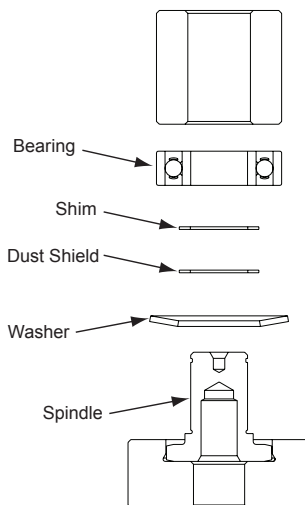

Figure 2
2. Place the Washer on the Spindle shaft with the curve of the Washer facing out so that the outside diameter of the Washer will contact the outer diameter of the Bearing (one seal). Place the Dust Shield onto the Spindle shaft. Lay the Shim on the shoulder of the Spindle. Note: Be sure that the Dust Shield is past the shoulder where Shim rests. Place the Bearing (one seal) on the Spindle with the seal side toward the Washer. NOTE: Make sure that both the inner and outer races of the Bearings are supported by the Bearing Press Tool when pressing them into place. Press the Bearing onto the shoulder of Spindle using the T-5B Spindle Bearing Pressing Tool Top as shown in Figure 2.